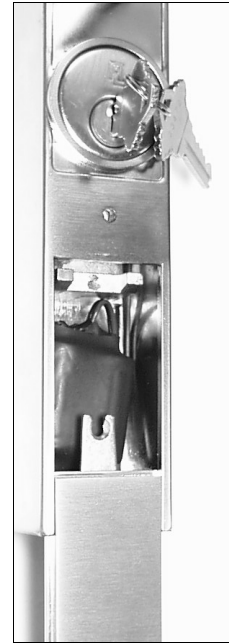

Fig. 11: Install the battery pack
- 7b. **Install battery pack** into the battery compartment. Neatly push all wiring inside the compartment. **Hold-ing battery in place**, slide cover back on. See Fig. 11.